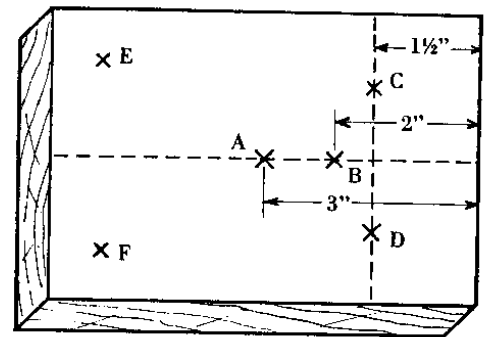

Figure 1
- Lay out the board with a pencil and ruler as indicated in *figure 1*.